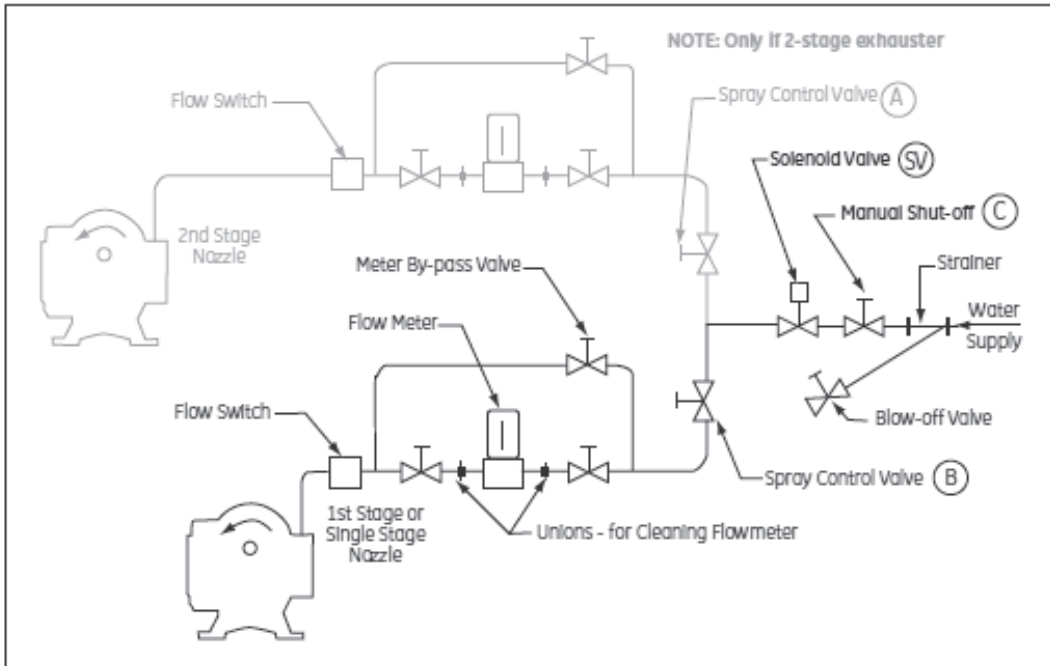

Figure 3f - Seal Water Control Piping Diagram
- Turn on sealing water supply by opening the manual shut-off valve (C in Figure 3f). Water will not flow to the spray nozzle yet since solenoid operated valve (SV) is electrically held closed until de-energized by the motor starter.